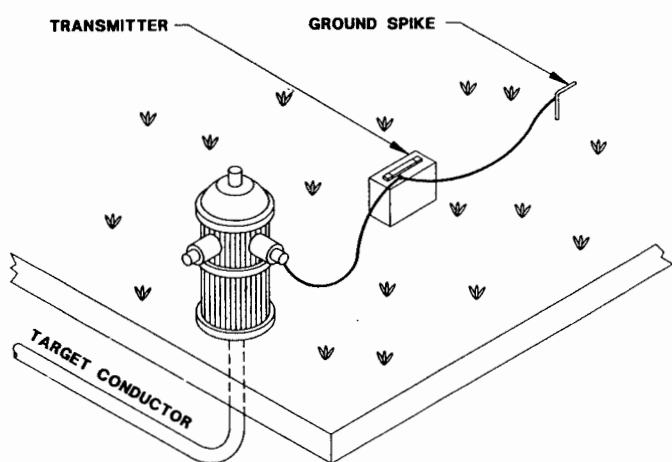

Figure 4-1: Direct (Conductive) Connection
3. Move the Transmitter away from the conductor in a right angle direction as shown in Figure 4-1.